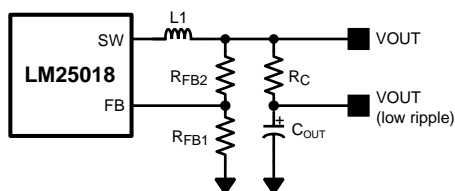

Figure 10. Low Ripple Output Configuration
This regulator regulates the output voltage based on ripple voltage at the feedback input, requiring a minimum amount of ESR for the output capacitor ( $C_{OUT}$ ). A minimum of 25 mV of ripple voltage at the feedback pin (FB) is required for the LM25018. In cases where the capacitor ESR is too small, additional series resistance may be required ( $R_C$  in Figure 10).
For applications where lower output voltage ripple is required the output can be taken directly from a low ESR output capacitor, as shown in Figure 10. However,  $R_C$  slightly degrades the load regulation.